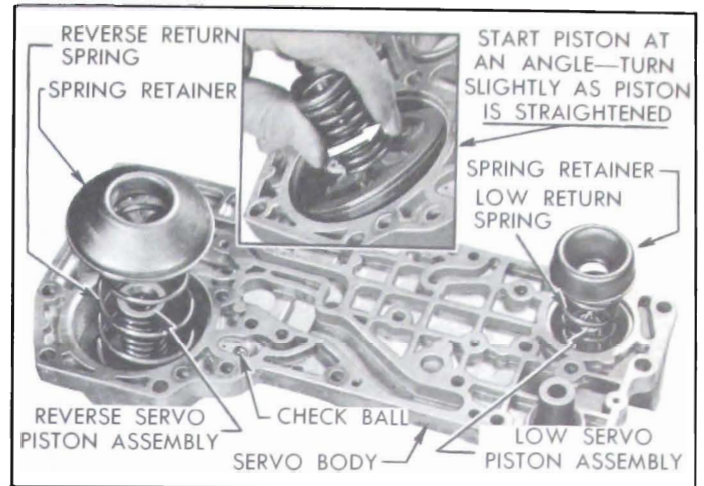

Figure 5-76—Parts Installed in Servo Body
3. Remove reverse and low servo piston spring seats, springs and pistons. Remove check ball from reverse servo feed channel. See Figure 5-76.
1. Oil and install the low and reverse servo piston assemblies in servo body. To avoid curling or damaging edge of piston seal, start each piston into cylinder at an angle then turn piston slightly as it is straightened and pushed into cylinder. See Figure 5-76. Check pistons for free movement in cylinders.
2. Install the small return spring against the low servo piston. Install the large return spring with the large end against the reverse servo piston. Place spring seats on upper ends of both springs. See Figure 5-76.
3. Place check ball in reverse servo feed channel. See Figure 5-76.